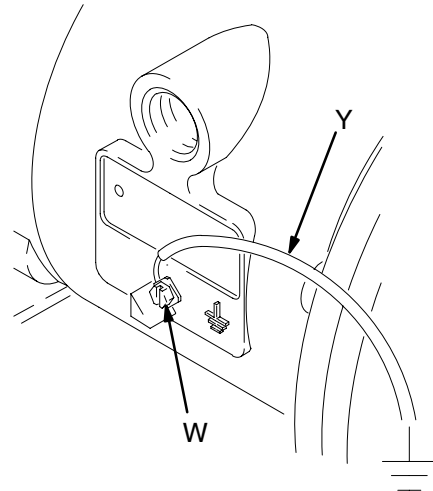

Fig. 1
- *Pump:* Connect a ground wire and clamp as shown in Fig. 1. Loosen the grounding screw (W). Insert one end of a 12 ga (1.5 mm²) minimum ground wire (Y) behind the grounding screw and tighten the screw securely. Connect the clamp end of the ground wire to a true earth ground. Order Part No. 222011 Ground Wire and Clamp.